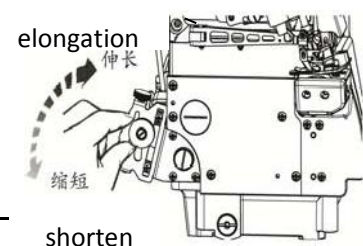

Fig. 21
2. After this adjustment is made, tighten nut. (Fig.21)